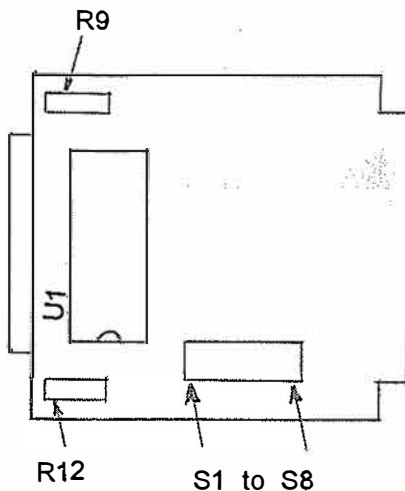

Figure 3. Component Location
2. Set switches S1 and S2, the coarse scale adjustments, as shown below. The location of these switches is shown in figure 3.
6. Adjust potentiometer R9 (figure 3) until the display equals the value of B calculated in step 3.
9. Adjust potentiometer R12 (figure 3) until the display shows the proper value corresponding to the input.